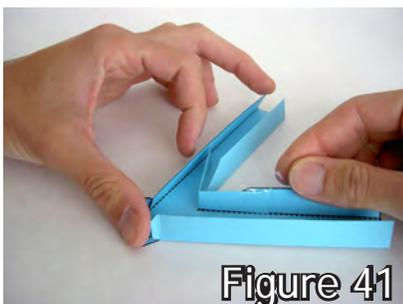
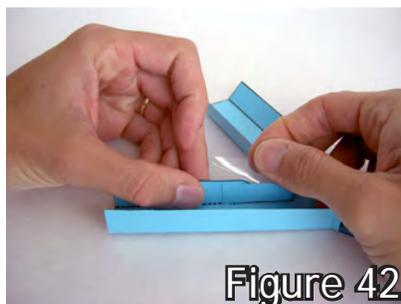

Figure 41
Figure 42
4. Line up the “merge inner wall” piece to the inside wall of the v-shaped track. (fig. 41) Tape one end of the “merge inner wall” piece and then the other end. (fig. 42)